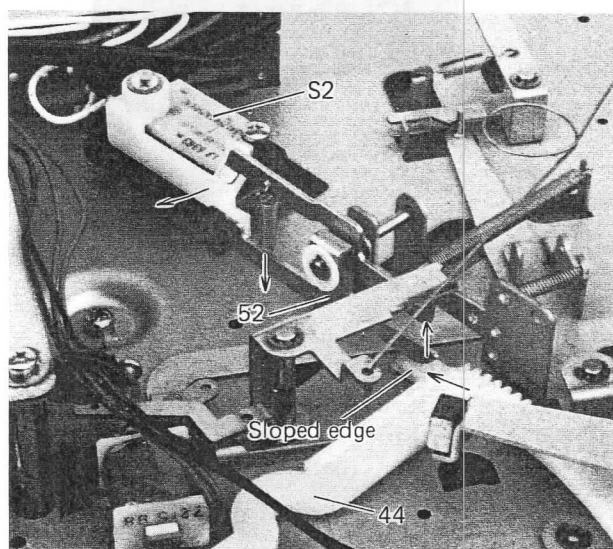

Figure 15
- (9) At the Rest position, another non-gearred position of the Main Gear meets the Motor Gear and it stops turning. At the same time the sloped edge of the Gear (44) pushes up the lower Switch Lever (52) to turn OFF the Microswitch (S2). The Motor stops with the Turntable. (Figure 15)